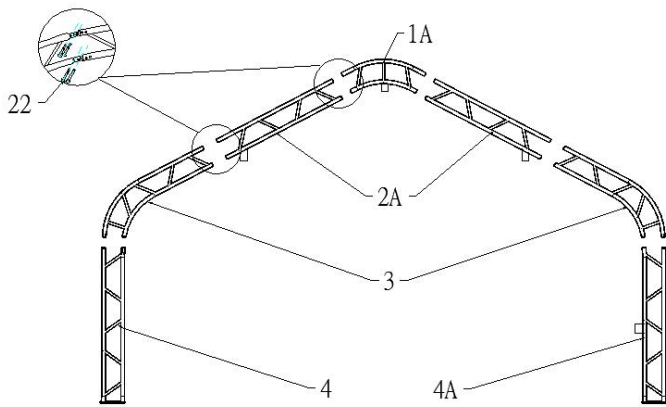
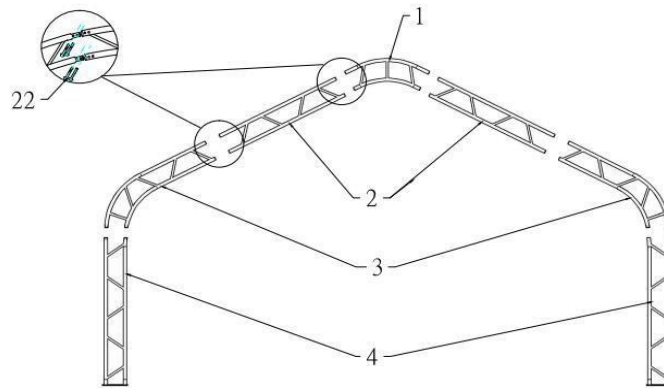
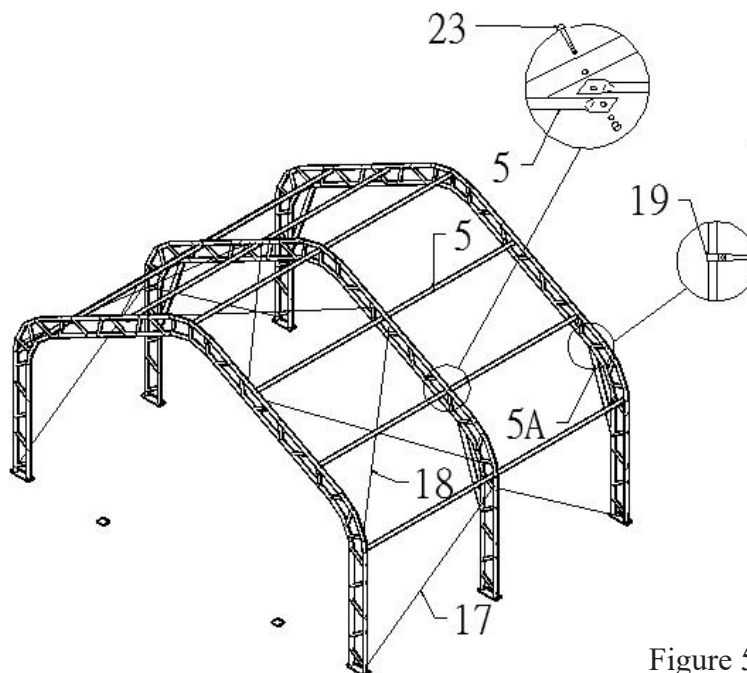

Figure 3
Figure 4
Figure 5
1. Figure 3 shows to connect the Roof bent tube for front and back door (No.1A), Sidewall bent tube for front and back door (No.2A), Shoulder bent tube (No.3), Standing leg (No.4) and Standing leg for front door (No.4A) with Bolt 8x60 (No.22), then put the arch into tube of the Base flange by hoist (see Figure 4)
2. Figure 4 shows to connect the middle groups' Roof bent tube (No.1), Sidewall bent tube (No.2), Shoulder bent tube (No.3), and Standing leg (No.4) with Bolt 8x60 (No.22), then put the arch into tube of the Base flange by hoist, and assemble every group arch by turns (see Figure 5)
3.Connect Purlin(No.5) to arch by using Bolt 10x70mm (No.23) by turns(see Figure 5),then connect the Steel wire(NO.17 and NO.18) on top and side and the diagonal bar at shoulder(No.5A) by using Clip(No.19) (see Figure 5).